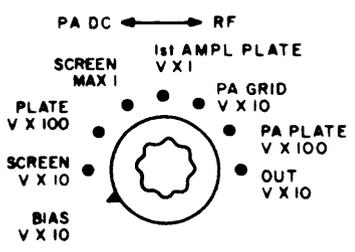

Figure 4-5. Simplified Schematic Diagram, Meter Circuit, RFD-1A
e. METER CIRCUIT (See figure 4-5). Meter M202 is capable of measuring various voltages or currents as determined by settings of S204 switch. Table 4-1 describes measurements vs. switch positions.